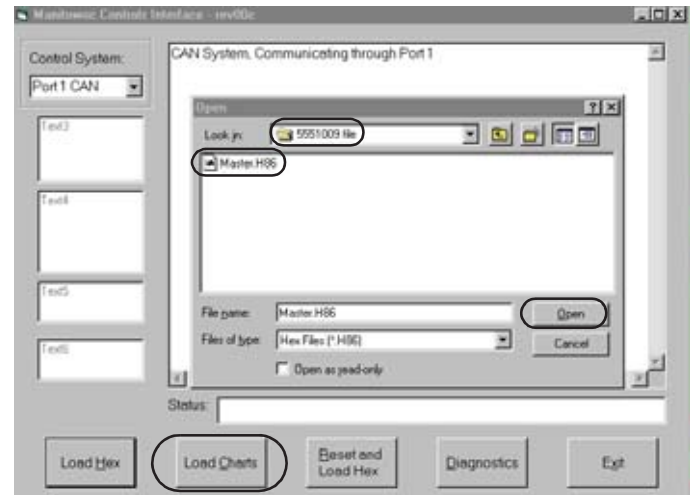

FIGURE 27
9. Locate and click **Master.H86** icon to select file and then click on **Open** button (see Figure 27). The hex file will now download into the bus system. While loading the file, the screen will display rows of squares and the status bar will indicate address of download. When the controls interface **MCC Controls App.** displays **Process Complete/Timed Out** the files are fully loaded and the screen closes automatically.